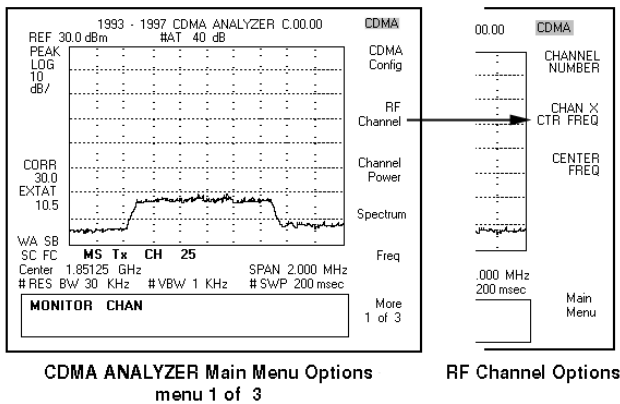

Figure 15. RF Channel Options
1. Select the **RF Channel** softkey on the CDMA ANALYZER main menu 1 of 3, the RF Channel options will appear (see Figure 15).